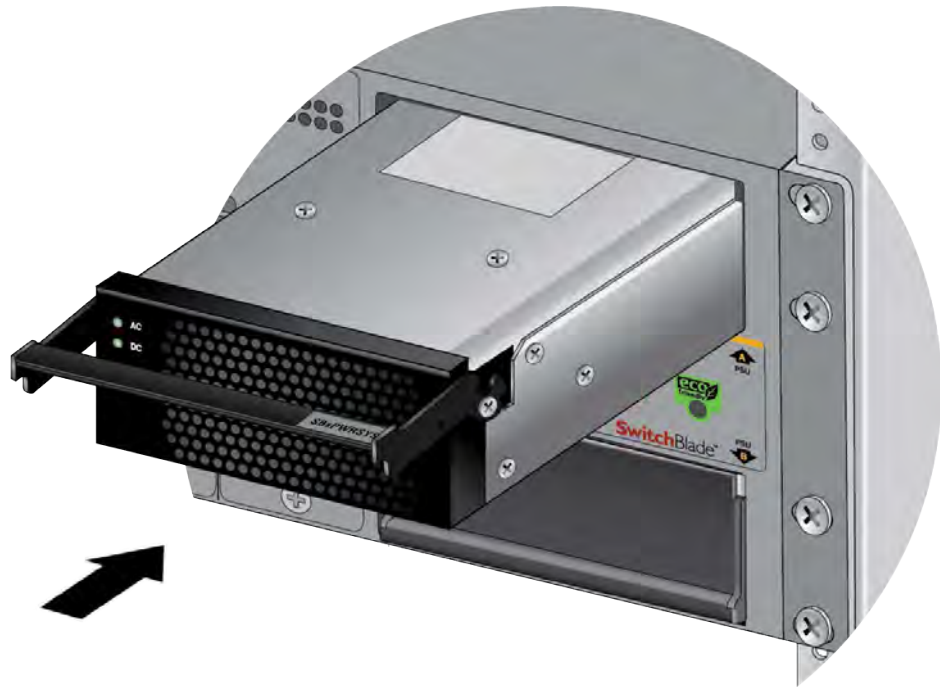

Figure 35. Sliding the SBxPWRSYS2 (AC) Power Supply into the Switch
4. Carefully align the power supply in the slot and slide it into the slot until it makes contact with the connector inside the switch. Refer to Figure 35.